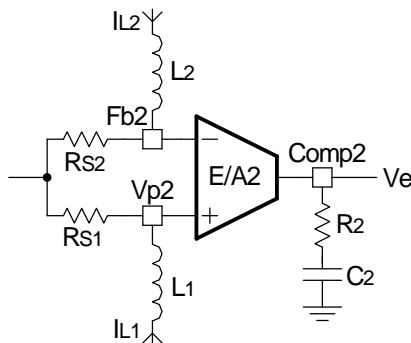

Fig. 21: The Compensation network for current loop
As shown the  $G(s)$  is a function of inductor current. The transfer function for compensation network is given by equation (24), when using a series RC circuit as shown in figure21.